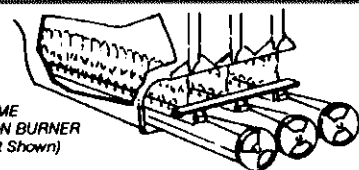

FIGURE 8
- 2— *Burner Flame* — Start burner and allow to operate for a few minutes to establish normal burning conditions. Check burner flame by observation. Flame should be predominantly blue in color, strong in appearance and should rise directly from the burner ports in the heat exchanger. Check to see that flame is burning from all continuous ribbon ports and that flame does not impinge on the sides of the heat exchanger. See figure 8.